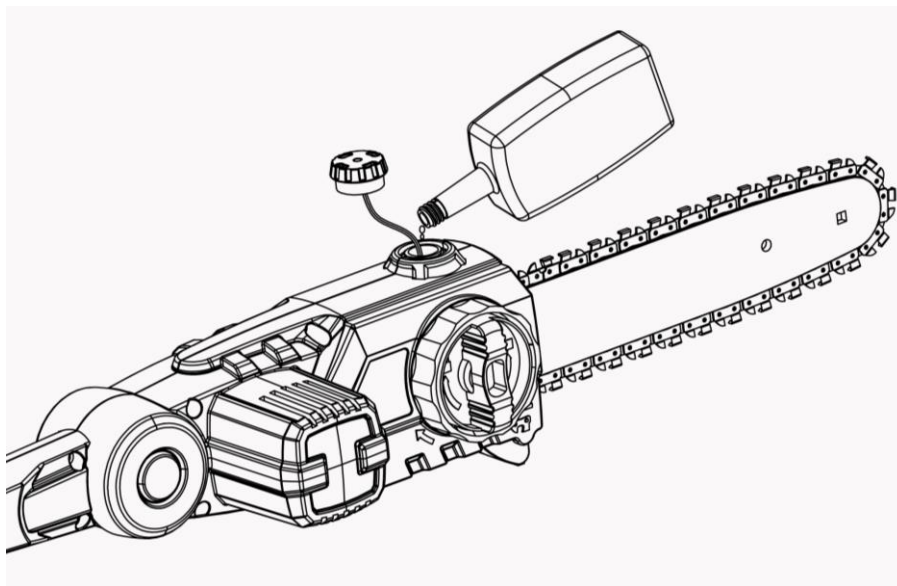

Fig.6
6. The oiler inside the oil into the pole saw's fuel tank. (IMPORTANT: Fill up, you must tighten cap) (See Fig.6)